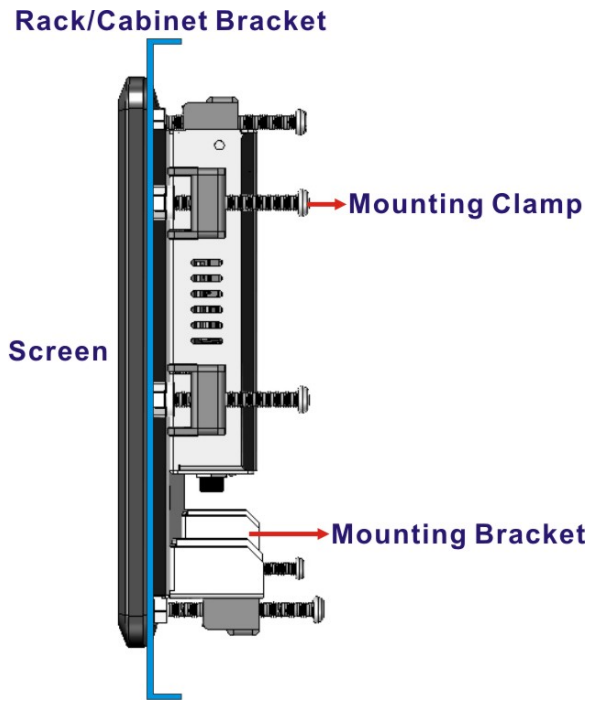

Figure 3-27: Secure the Rack/Cabinet Bracket
Step 3: Insert the mounting clamps into the mounting brackets and pre-formed holes along the edges of the PPC-F08B/F10B-BT, behind the aluminum frame (**Figure 3-27**). There are a total of eight mounting clamps required.
Step 4: Tighten the screws that pass through the mounting clamps until the plastic caps at the front of all the screws are firmly secured to the bracket (**Figure 3-27**).